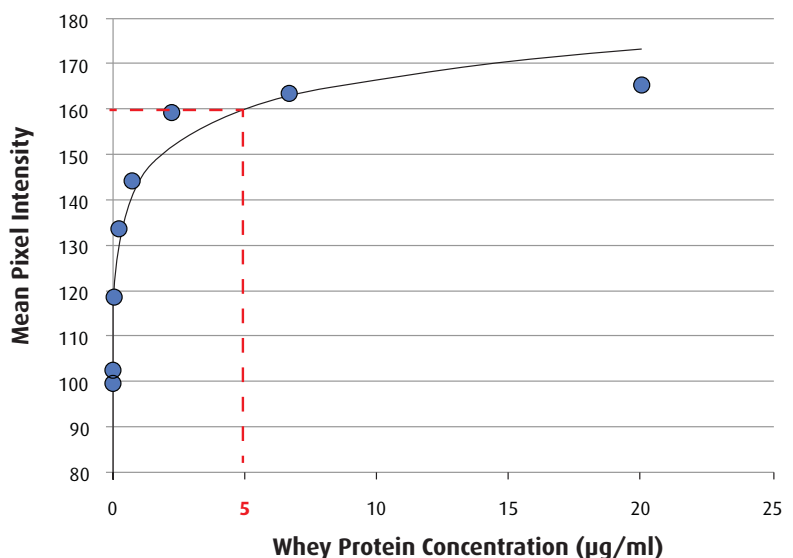

Figure 5: Determining a Protein Concentration.
- c. From the Y-axis of the standard curve graph, extend a horizontal line from this absorbance value to the standard curve. At the point of intersection extend a vertical line to the X-axis and read the corresponding concentration. Alternatively use the equation of the best-fit curve to solve for x given the y value (see Figure 5).